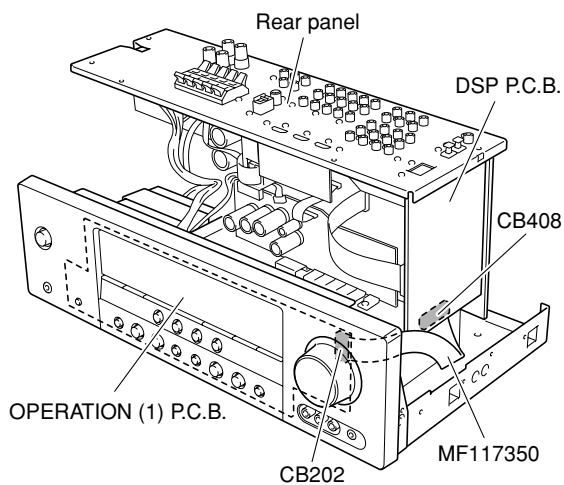

Fig. 6
- Use the extension cable for connection for the following connectors. (Fig. 6)